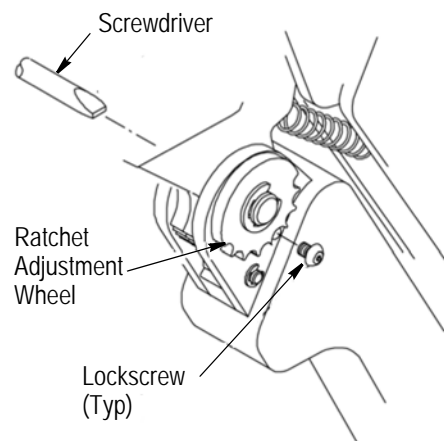

Figure 5
1. Remove the lockscrew from the ratchet adjustment wheel. See Figure 5.